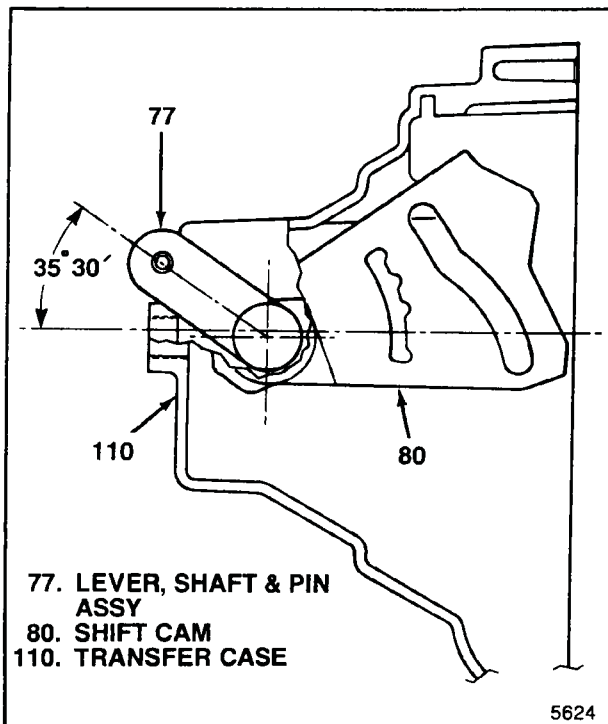

Figure 5-11. Cam and Lever Positions
- a. Lubricate shaft and install lever, shaft and pin assembly (77). Start splined end of shaft into transfer case (110) until end is flush with inside of case.
- b. Start setscrew (75) into shift cam (80). Insert shift cam into transfer case. Position both cam and lever shaft and pin assembly (77) as shown in figure 5-11, align cam and shaft splines and install lever, shaft and pin assembly fully into cam.
- c. Install klip ring (76) in groove near inside end of shaft on lever, shaft and pin assembly (77) to retain shift cam (80).
- d. Tighten setscrew (75) to 5-7 lb-ft (7.0-9.5 Nm) through hole in transfer case (110) for 4WD indicator switch (74).
- e. Install assist bushing (79) on end of assist spring (78) and install in groove in shift cam (80) closest to lever, shaft and pin assembly (77). Install other end of spring through case bracket notch and into hole in transfer case (110).
- f. Install 4WD indicator switch (74) and torque to 25-35 lb-ft (34-47 Nm)